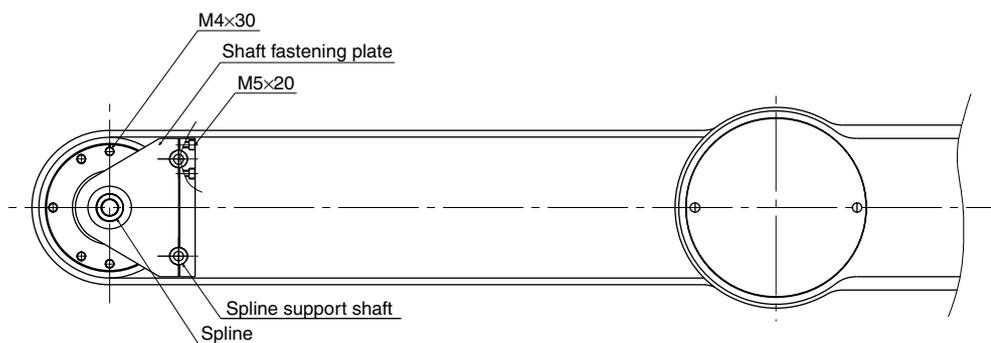

Fig. 5-53
- 6) Remove the bolts (M5×20L, 4 pieces) and then separate the spline support shaft (2 pieces) from the shaft fastening plate. (See Fig. 5-53.)
- 10) Remove the bolts (M4×30L, 8 pieces) on the underside of the Y-axis arm and remove the plate fastening the spline and the harmonic drive. (See Fig. 5-53.)
- 21) Fit a new O-ring into the O-ring groove on the fastening plate and also replace the edge seal with new one. Then, secure the fastening plate to the harmonic drive with the bolts (M4×30L, 8 pieces) coated with small amounts of "Screw Lock". (See Figs. 5-53 and 5-59.)
- 25) Install the spline support shafts (2 pieces) to the fastening plate, apply a small amount of "Screw Lock" to the bolts (M5×20L, 4 pieces) and tighten. (See Fig. 5-53.)